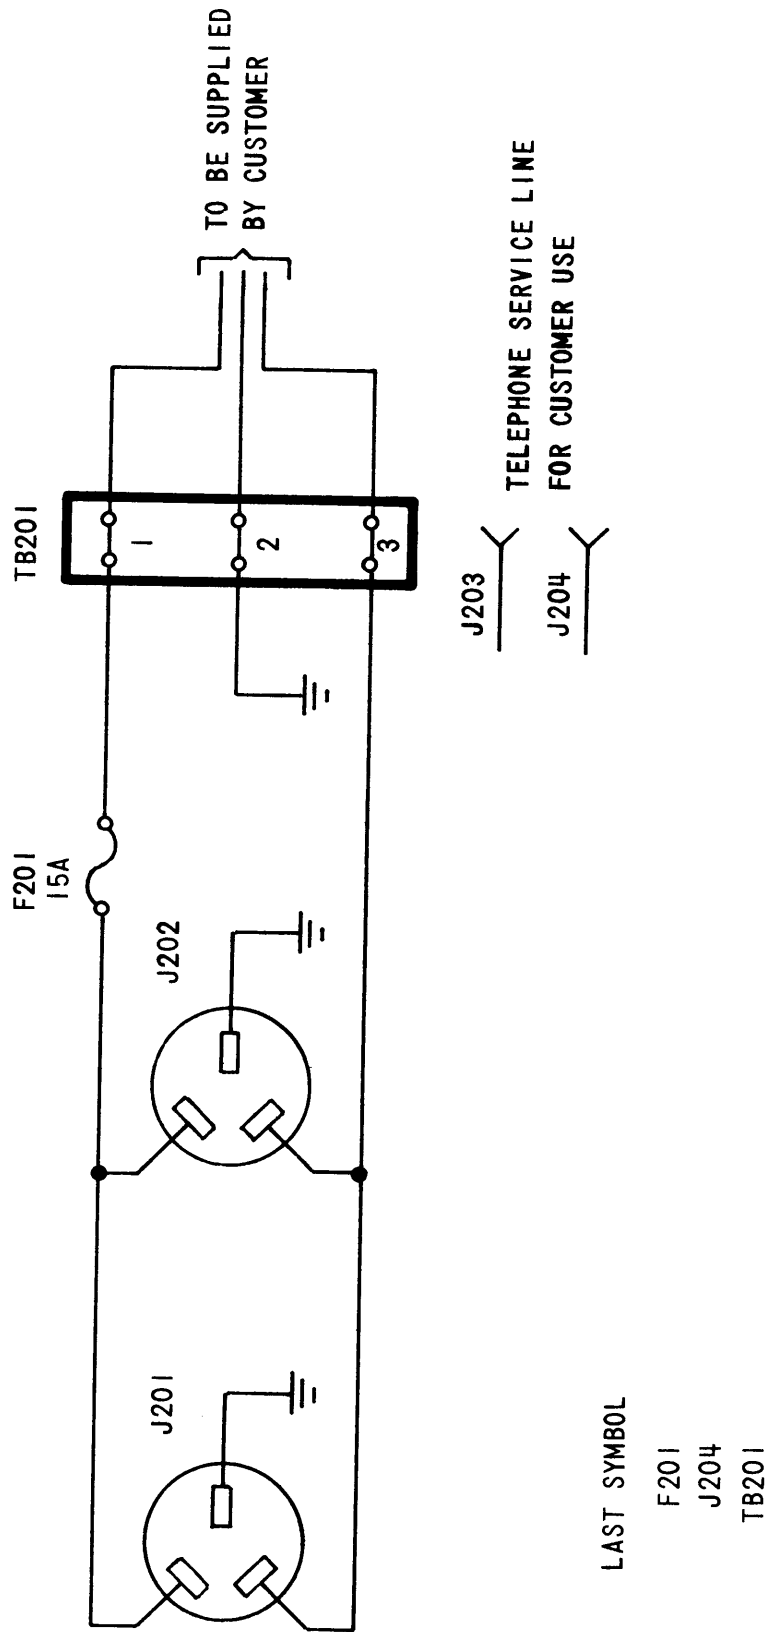

Figure 2-7. Schematic Diagram, APP-14
c. If a model APP-14 is to be used, it must be connected as per customer requirements (refer to figure 2-7).